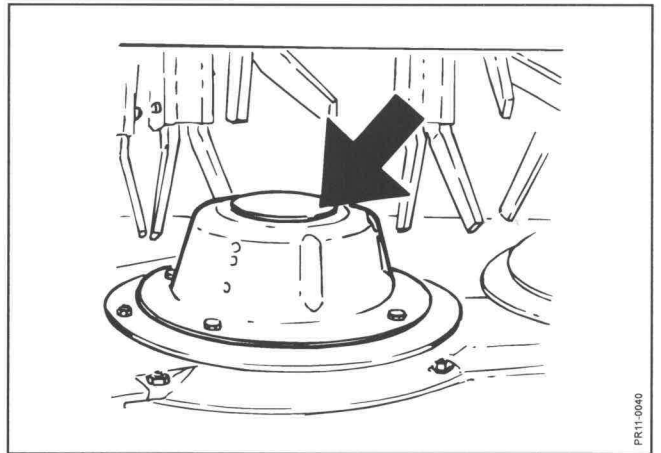

Fig. 6-7
- Fig. 6-7** Low flow caps should be straightened or replaced by new ones if they are deformed. They should be checked for dust and earth 2 or 3 times per season.